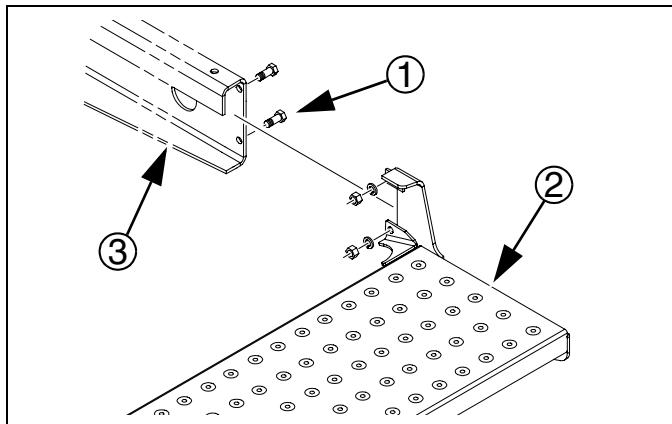

Figure 3
**Refer to Figure 3**
1. Remove 1/2-13 x 1 1/4-inch bolts (1) from end panels.
2. Bolt each walkboard (2) to box support channels (3) with 1/2-13 x 1 1/4 inch bolts, lock washer, and hex nuts.